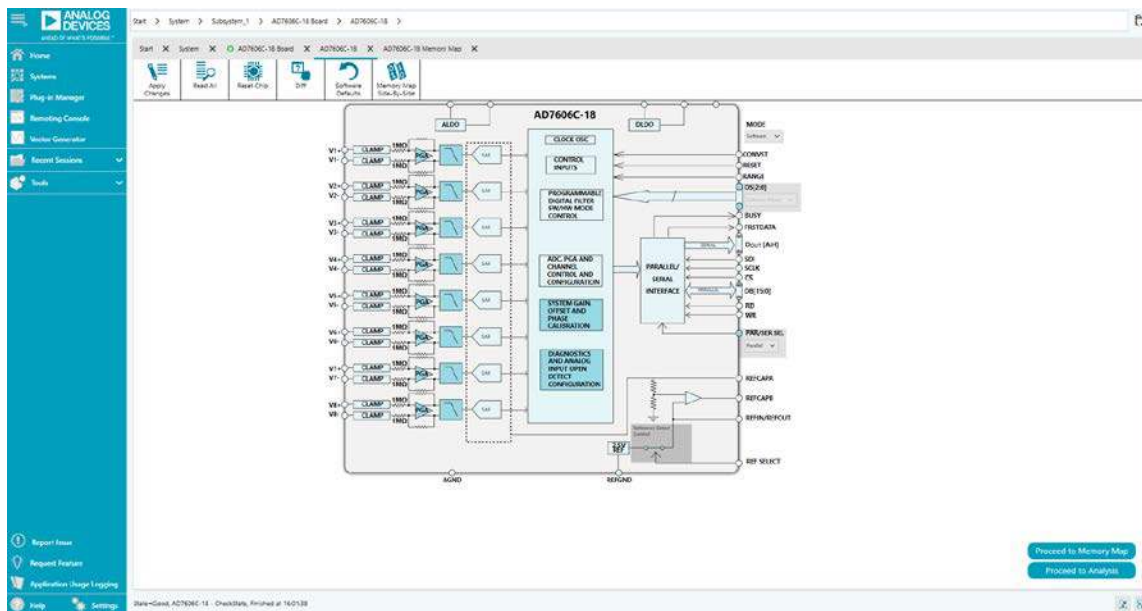
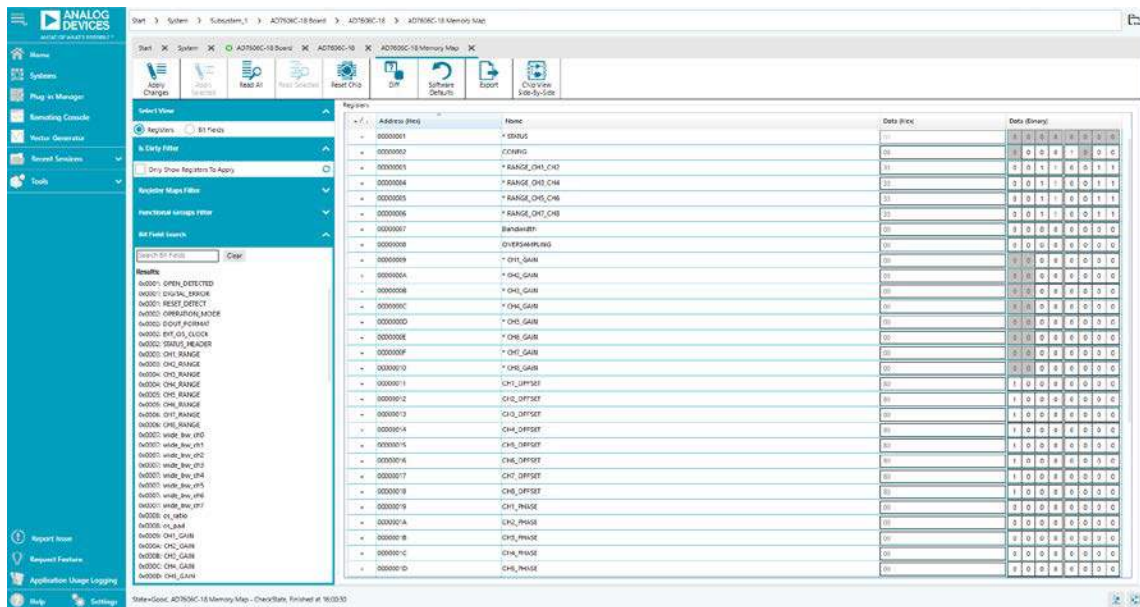
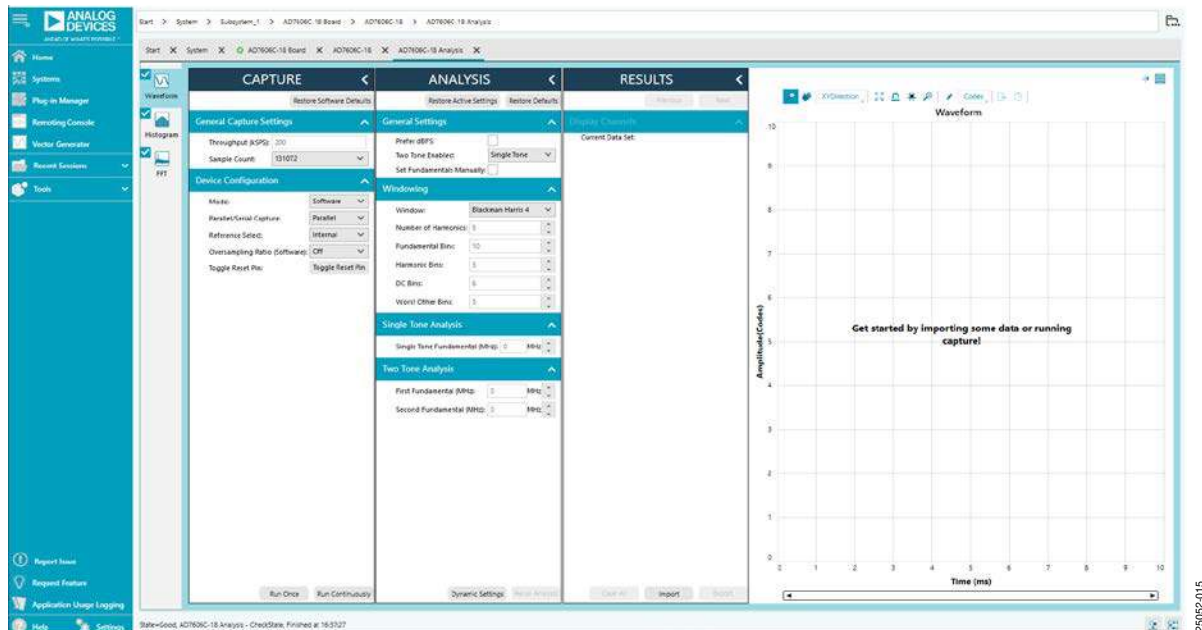

Figure 12. AD7606C-18 Chip View Window
Figure 14. AD7606C-18 Memory Map View Window
Figure 15. AD7606C-18 Analysis View Window
4. Double click the **AD7606C-18 chip** icon in the **AD7606C-18 Board** view window to open the **AD7606C-18 chip** view window shown in Figure 12.
Click **Proceed to Memory Map** in the AD7606C-18 chip view window (see Figure 12) to open the AD7606C-18 Memory Map view window shown in Figure 14. The AD7606C-18 Memory Map view window shows all registers of the AD7606C-18.
Click **Proceed to Analysis** in the AD7606C-18 chip view window (see Figure 12) to open the AD7606C-18 Analysis view window shown in Figure 15. The analysis view window contains the **Waveform** tab, **Histogram** tab, and **FFT** tab. The same features are available when evaluating the AD7606C-16.